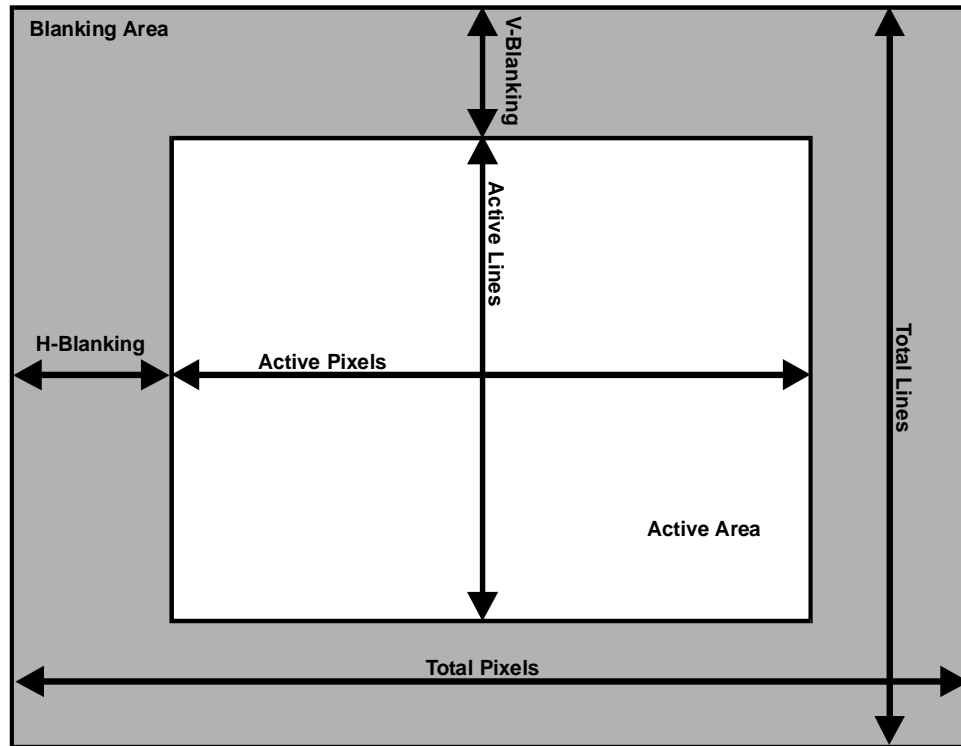

Figure 1. Input Settings
- **Note:** Figure 1 and the formulas and figures included on the following pages will assist in the adjustment of these settings.